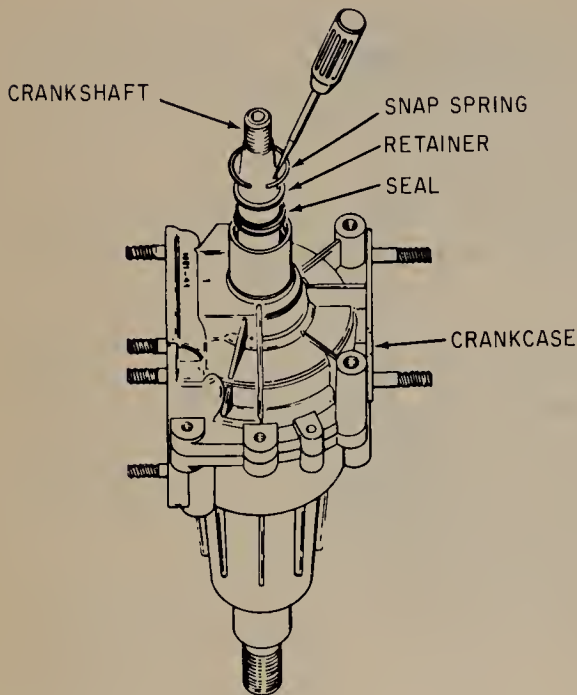
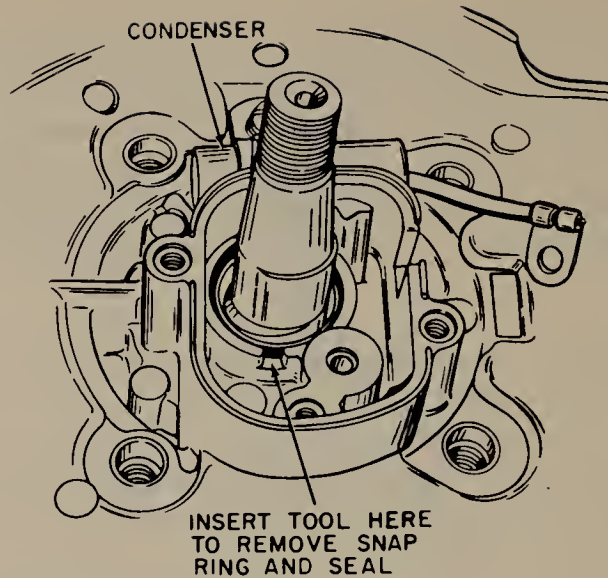

FIGURE 16.43 Removing snap ring to permit removal of oil seal. (Tecumseh Products Company.)
FIGURE 16.44 Point at which tool must be inserted to remove snap ring. (Tecumseh Products Company.)
16.10 Oil Seals. Oil seals must be discarded and new seals installed every time the engine is torn down. One oil-seal arrangement is shown in Fig. 16.43. The seal is held in place by a retainer and a snap ring, as shown. In order to remove the snap ring and the seal, you use an ice pick or other pointed tool to pry the snap ring out of the spring groove. This permits removal of the spring, retainer, and seal. Figure 16.44 shows the point at which the tool must be inserted to remove the snap spring.